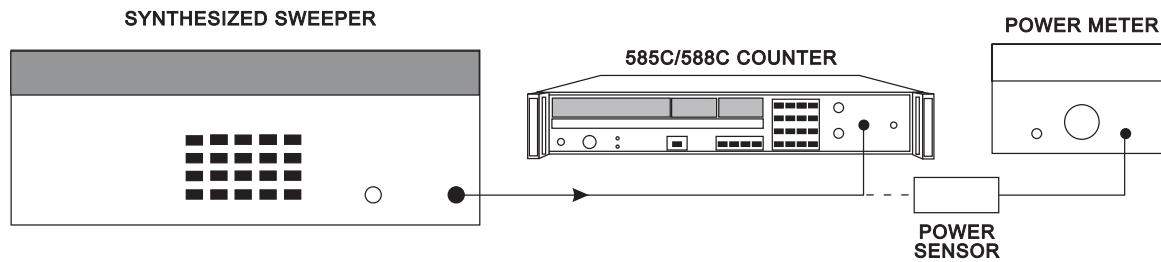

Figure 6-5. Band 2 Range and Sensitivity Test Setup
1. Connect the equipment as shown in Figure 6-5.